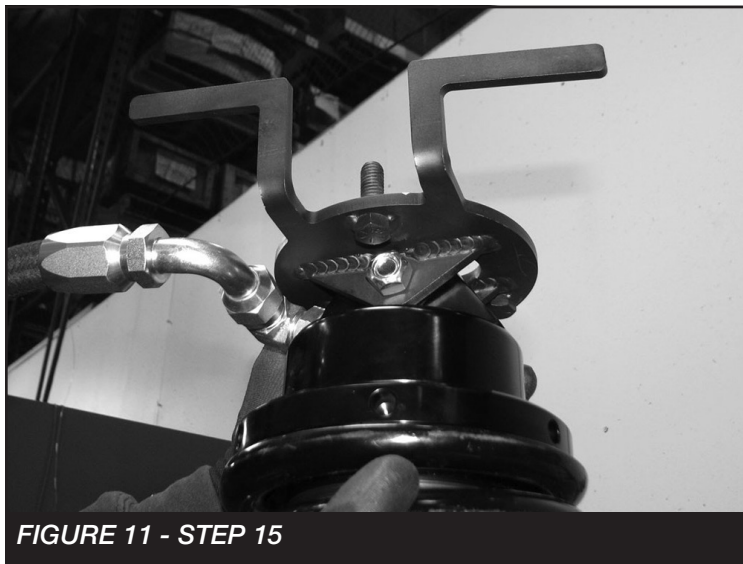

FIGURE 11 - STEP 15
15. REPEAT STEP 14 FOR THE PASSENGER SIDE. Use the Passenger side Coilover, FT30727 (pass upper mount) bushings, misalignments and 1/2" hardware. SEE FIGURE 11 FOR COMPLETED ASSEMBLY.